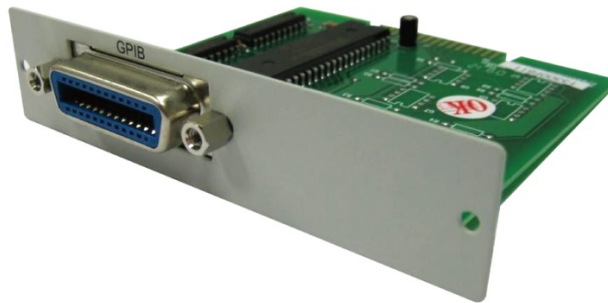

Fig 2-5 3300G GPIB interface
- Please make sure the lock screws are firmly hand-tightened, use a screwdriver Only for the removal of screws. Fig 2-5 shows the rear Panel of 3300G Mainframe, The GPIB address of the 3300G mainframe is set on front Panel.